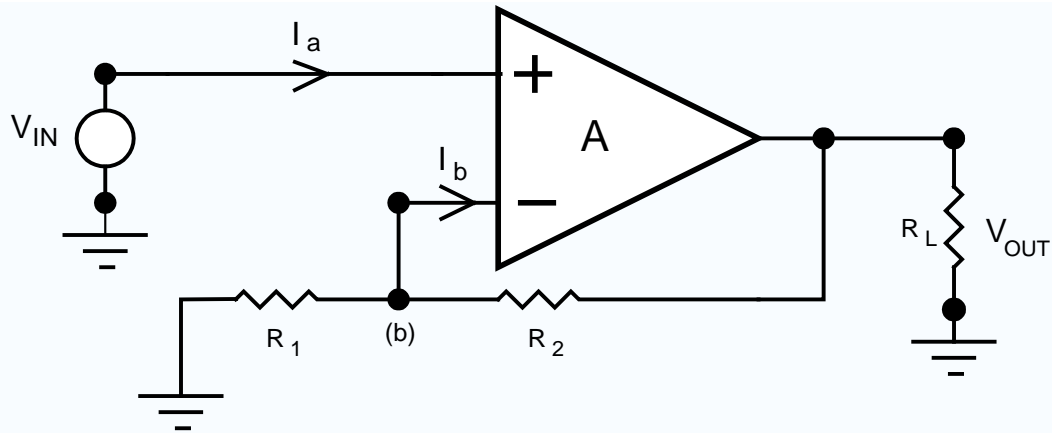

Figure 12.4. Op-amp circuit configuration for a noninverting amplifier.
Fig. 12.4 shows the circuit for a non-inverting amplifier. Here we have
2) Repeat all of the steps in part (1) for the circuit shown in Fig. 12.4.